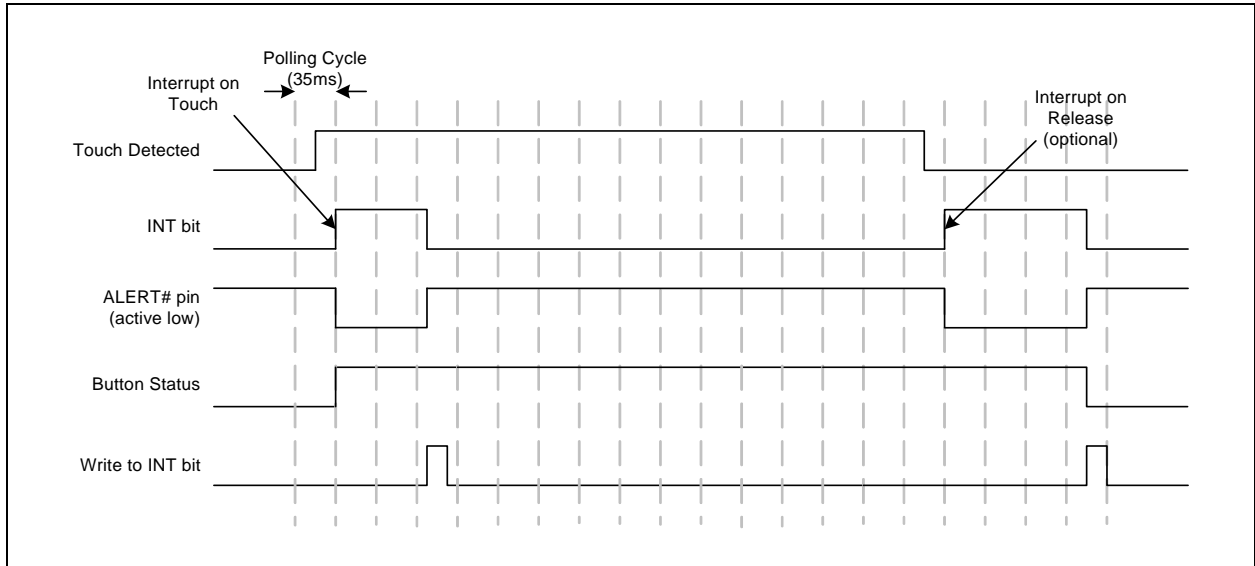

Figure 4.4 Sensor Interrupt Behavior - No Repeat Rate Enabled
1. An interrupt is generated when a touch is detected and, as a user selectable option, when a release is detected (by default - see Section 5.6). See Figure 4.4.
**APPLICATION NOTE:** Figure 4.3 and Figure 4.4 show default operation which is to generate an interrupt upon sensor pad release and an active-low ALERT# pin.